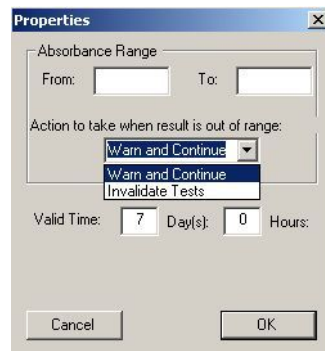

Figure 6.7-2 Blank Properties
**Blank Properties** Set up the “Absorbance Range”, “Out of Range Action”, and the “Valid Time” for the Blank (Figure 6.7-2).